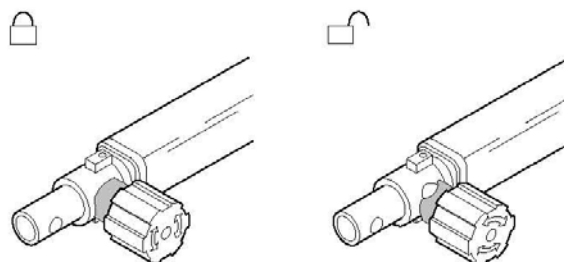

Fig 4
- ▶ Turn the red button by 90° (see Fig.4).